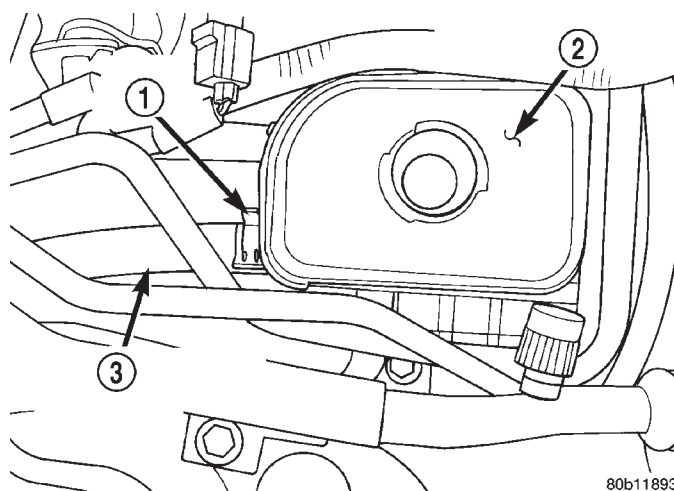

Fig. 12 Supply Hose At Power Steering Fluid Reservoir
(1) Remove battery cable from (-) negative post on battery and isolate cable.
(2) Siphon as much power steering fluid as possible out of the remote power steering fluid reservoir.
(3) Remove the power steering fluid supply hose from the power steering fluid reservoir (Fig. 12). Fluid supply hose will be removed with the power steering pump.
(14) Install wheel and tire. Tighten the wheel lug nuts in proper sequence until all lug nuts are torqued to half specification. Then repeat tightening sequence to full specified torque of 129 N·m (95 ft. lbs.).
(15) Lower vehicle.
(16) Install power steering fluid supply hose (Fig. 12) on power steering fluid reservoir fitting. Install hose clamp on hose. Be sure hose clamp is installed on hose past upset bead on power steering fluid reservoir.